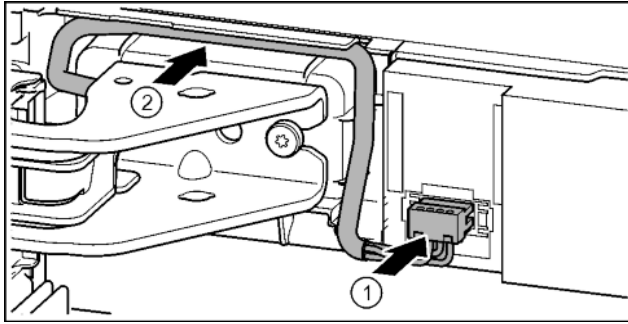

Fig. 36
- ▶ Click the connector into place above the upper mounting block and carefully place the cable strands into the channel. Fig. 36 (1)
- ▶ Carefully position the grey cable in the guide above the top bearing bracket. Fig. 36 (2)